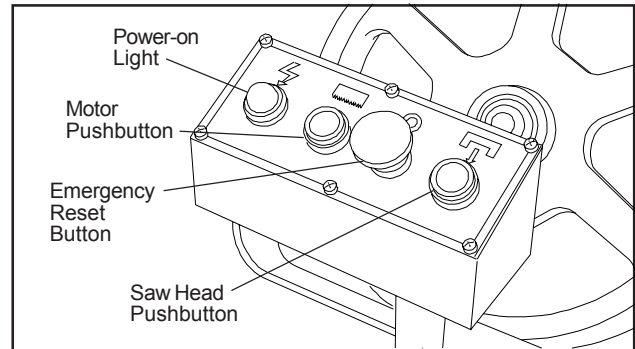

Figure 3: Control panel
2. To lower the saw head, press the green pushbutton on the right side of the control panel (see figure 3).